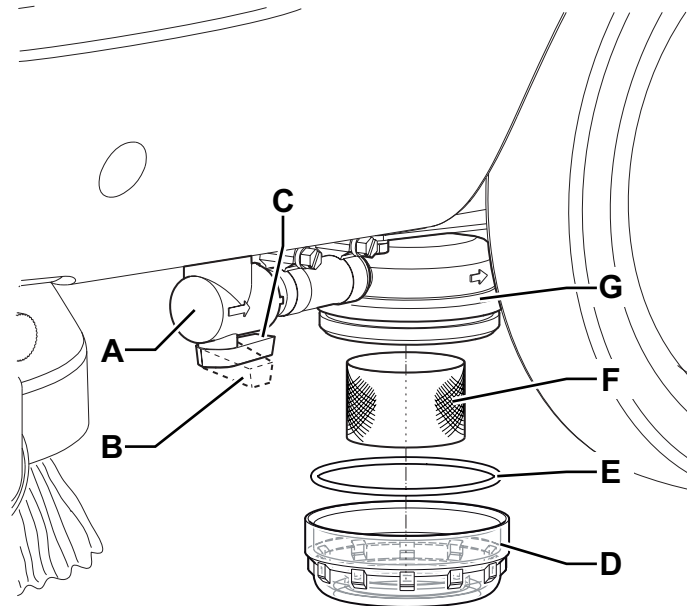

Figure 9
3. Close the solution valve (A, Fig. 9) under the machine, in front of the left rear wheel.